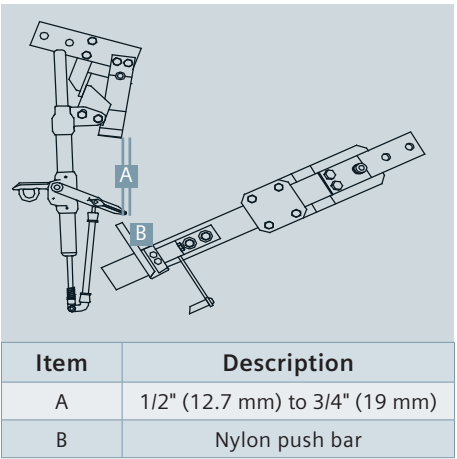

Figure 15: Lever pick up
- a) As the blade rotates closed, the push bar must pick up the lever at least 1/2" (12.7 mm) from the end of the lever (refer to Figure 15: Lever pick up).